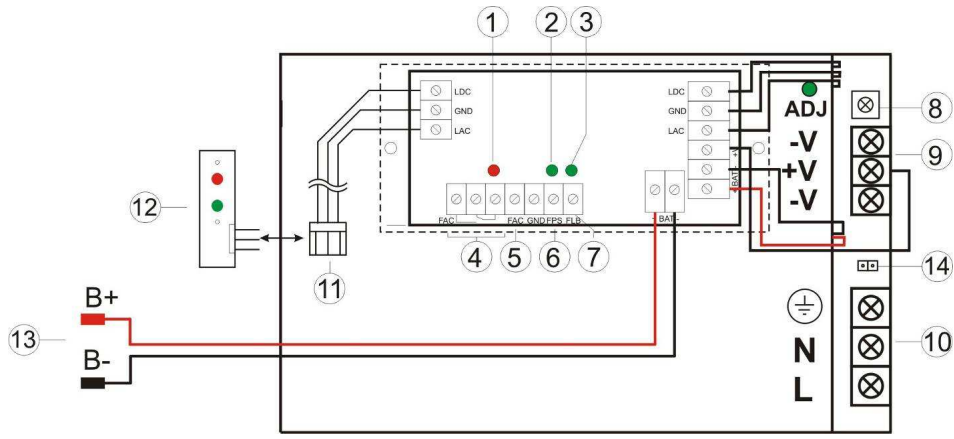

Fig. 2. The view of the PSU.
1.3 Description of PSU components and connectors (tab.1, fig.2).
Element no. [Fig. 2]	Description
Technical outputs: - FAC; output indicating AC power failure - FPS; output indicating DC absence/PSU failure -FLB output indicating battery low voltage	- relay type: 1A@ 30VDC/50VAC, time lag: approx. 10s. CAUTION! In Fig.2. the contact set in the potential-free status corresponds to a state with no AC power (AC power failure). - OC type, 50mA max., normal status: L (0V) level, failure: hi-Z level, time lag: 10s. - OC type, 50mA max., normal status: L (0V) level, failure: hi-Z level - OC type, 50mA max., normal status: ($U_{BAT} > 23V$): L (0V) level, failure: ($U_{BAT} < 23V$): hi-Z level
- red LED (Fig.2, element 1) normal status (AC power): permanently illuminated. AC power absence is indicated by the AC diode going out.
- green LED (Fig.2, element 2) indicates DC power at the PSU output. Under normal status the diode is permanently illuminated. In case of a short circuit or an overload, the diode is off.
- green LED (Fig.2, element 3) indicates battery voltage level. Under normal status ($U_{BAT} > 23V$) the diode is permanently illuminated. In case of decrease of battery voltage ($U_{BAT} < 23V$) the diode is off.
CAUTION! In Fig.2. the contact set in the potential-free status corresponds to a state with no AC power (AC power failure).